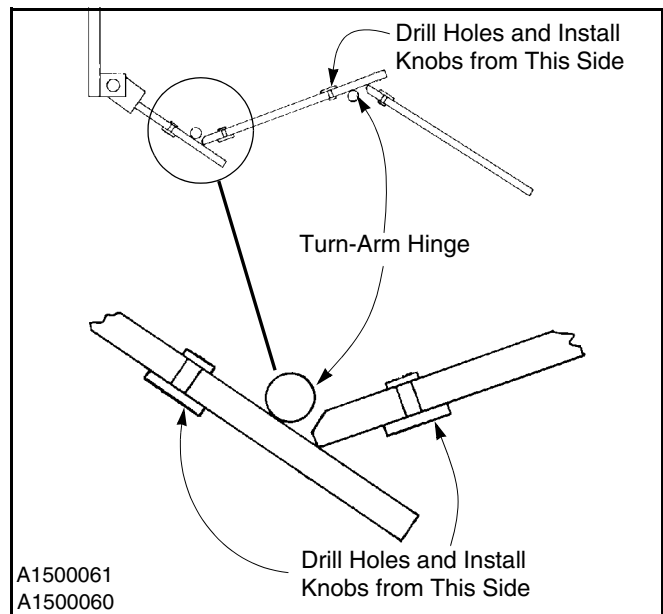

Figure 55
4. Using a 1-in. hole saw or wood spade bit, drill the holes for the knob and rope ties. Each hole should be drilled from the same direction the knob will be installed. Using the turn-arm hinge for reference, drill the holes toward the turn-arm side of the panel as shown in Figure 55.